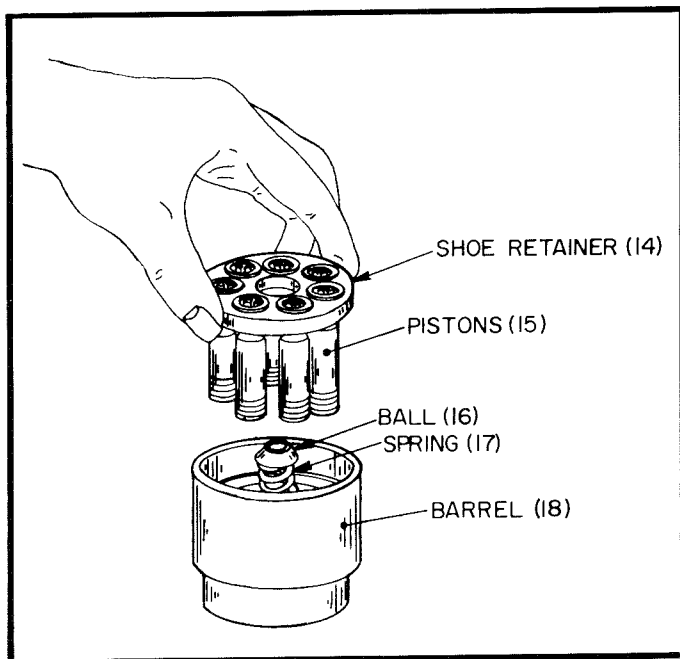

Figure 6. Rotating Group Disassembly. (511783)
2. Place pump in a horizontal position and remove the rotating group by turning shaft slowly while pulling barrel (18) from pump housing. Remove retaining ring (13) and pull hydrodynamic bearing and spacer assembly (12) from housing.
3. Position the rotating group as shown in Figure 6 and lift parts from barrel (18) for inspection.
See Figure 6. Place the cylinder barrel (18), wear surface down, on a clean cloth. Place the barrel spring (17) in the center of the barrel with retainer ball (16) on top of it. Insert pistons (15) and shoe retainer (14), as a unit, into the piston holes, but DO NOT FORCE. If aligned properly the pistons will fit smoothly.